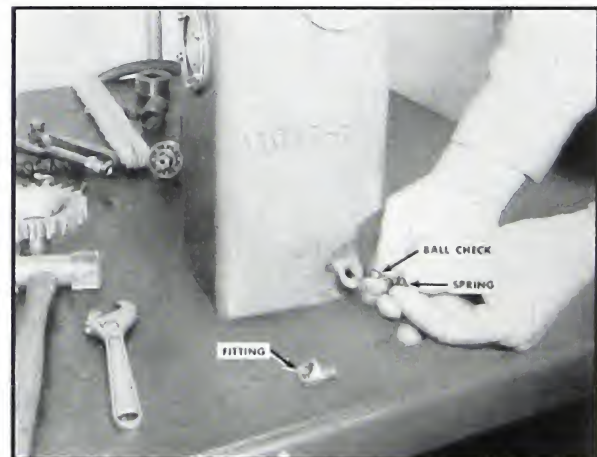

Fig. 5-379. Ball check valve
12. If necessary, remove the ball check valve and spring, beneath the fitting at the bottom of the sump. Fig. 5-379.